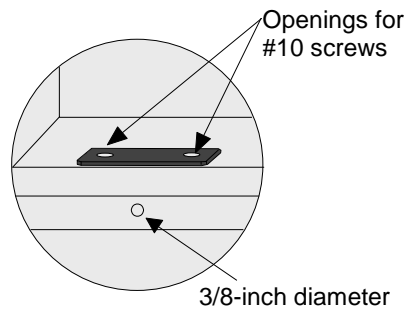

FIG. 1
1. Place the top mounting plate at the edge of the cabinet and mark the location of mounting screws. Drill two holes for #10 screws. (13/6-inch). (FIG.1 ) The pedal center should be between 6 and 10 inches offset from the cabinet center.
Drill hole 3/8-inch under the cabinet plate for cable connection to the valve. (FIG.1 )